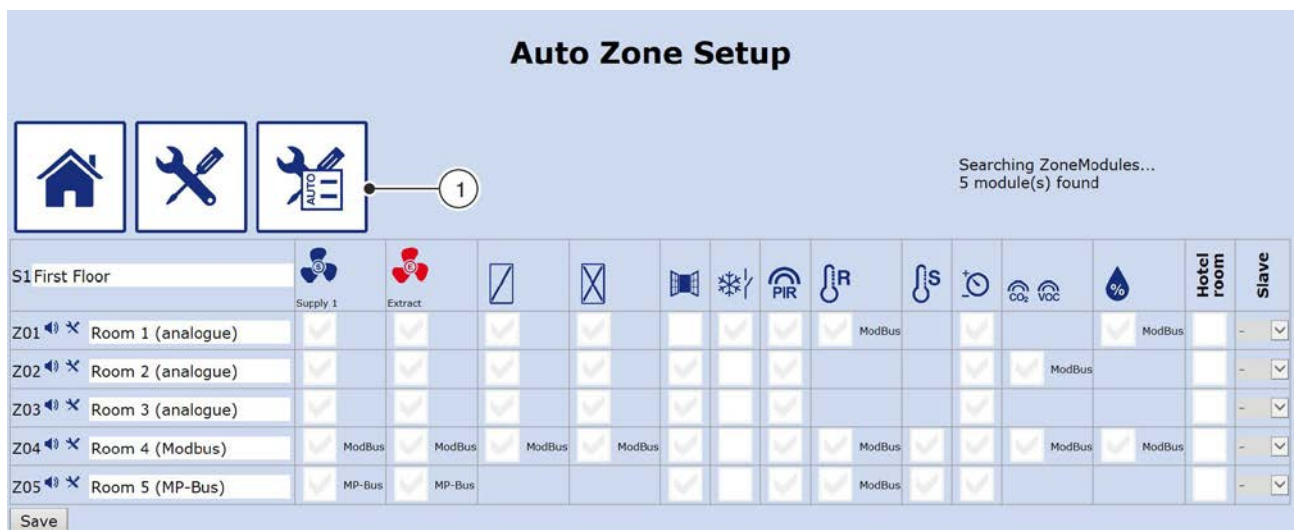

Fig. 34: Automatic zone setup
- ▶ To configure actuators and sensors manually, click the button in Fig. 34 /1.